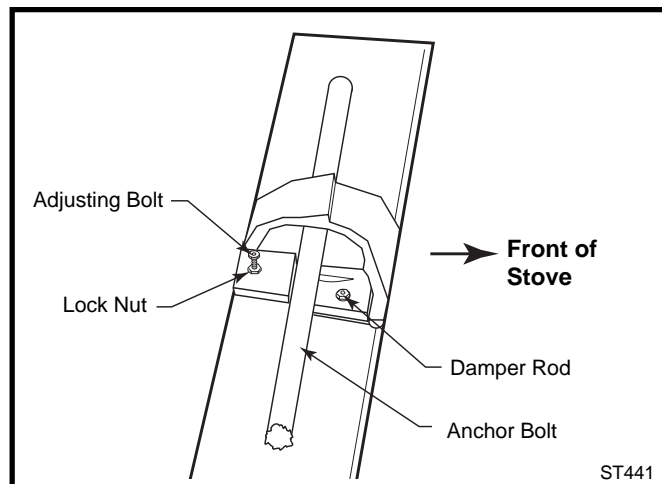

Fig. 28 Damper adjustment.
3. Loosen the adjusting bolt's lock nut. (Fig. 28)